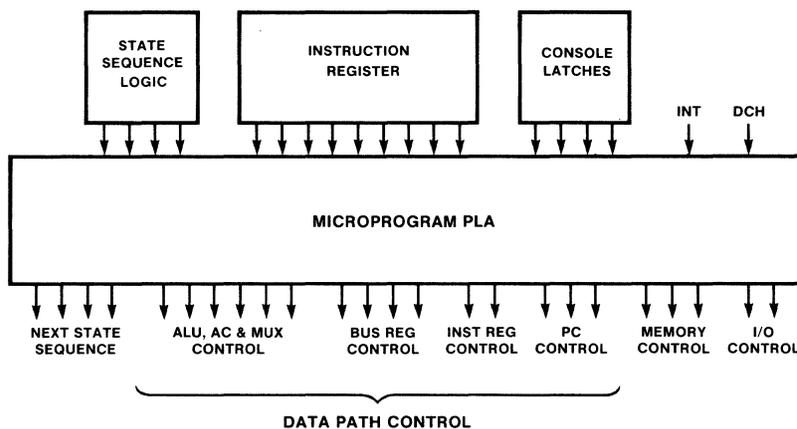

Fig. 2 Programmed Logic Array
**Control** — Control signals are supplied to the data path by the internal mask-programmed logic array (PLA). For each of 72 different data-path operations, there is a 24-bit output word in the PLA selected according to the combination of 19 input lines. These are defined in *Figure 2*.